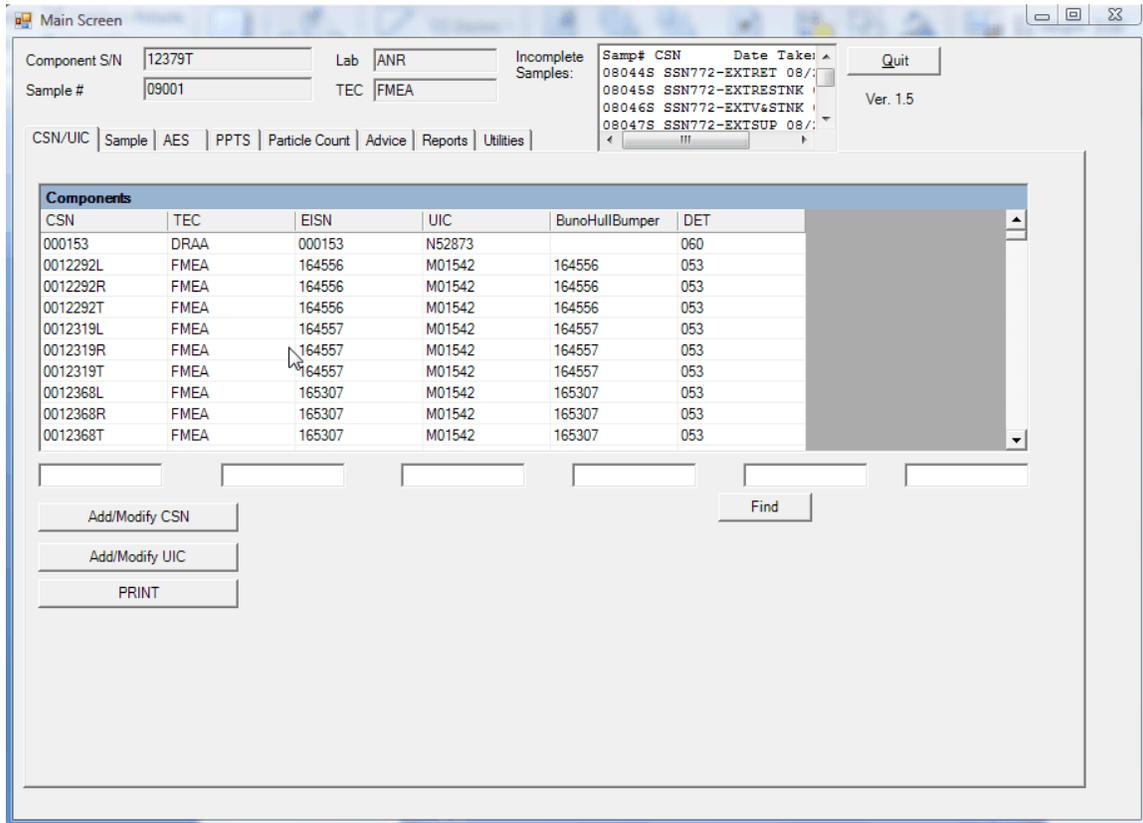

Figure 28. CSN/UIC Tab
(1) From the main screen press the CSN/UIC tab and the following screen will appear (Figure 28).